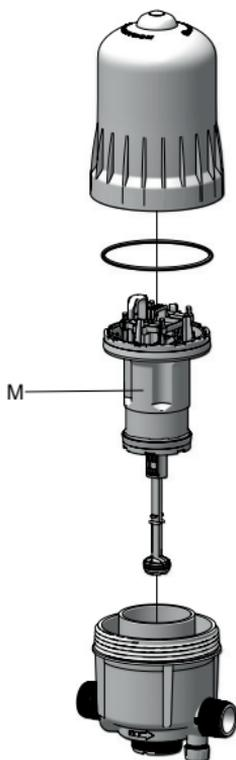

Fig. 26
- Unscrew the cover manually (**Fig. 26**) and remove it.